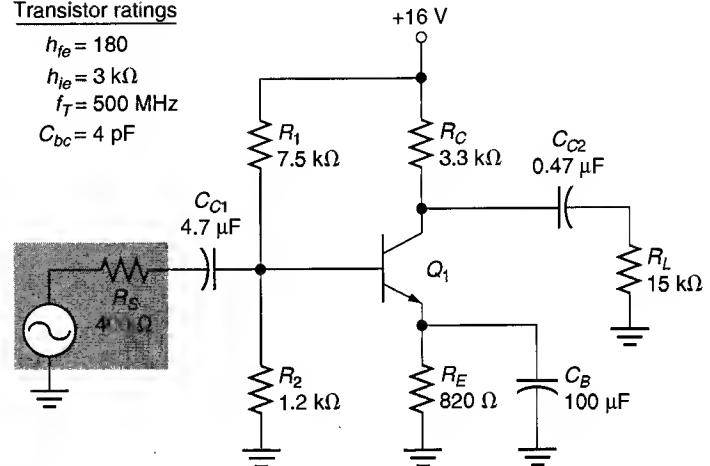

FIGURE 14.34
30. Calculate the overall values of f_{C1} and f_{C2} for the amplifier in Figure 14.34.